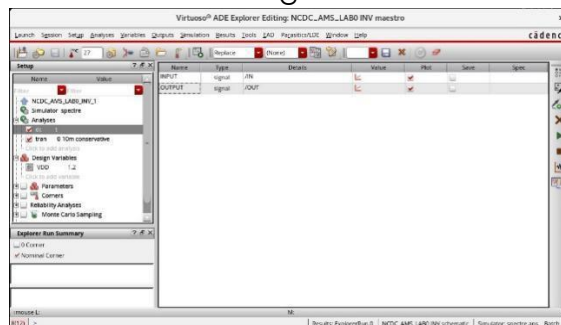

Figure 12: Finalized Maestro window for running simulation
13. Next, go back to the maestro window and <check the boxes for "plot" and "save" under the "Outputs" section of the window>. Once this stage is reached the maestro window should look like Figure 12.